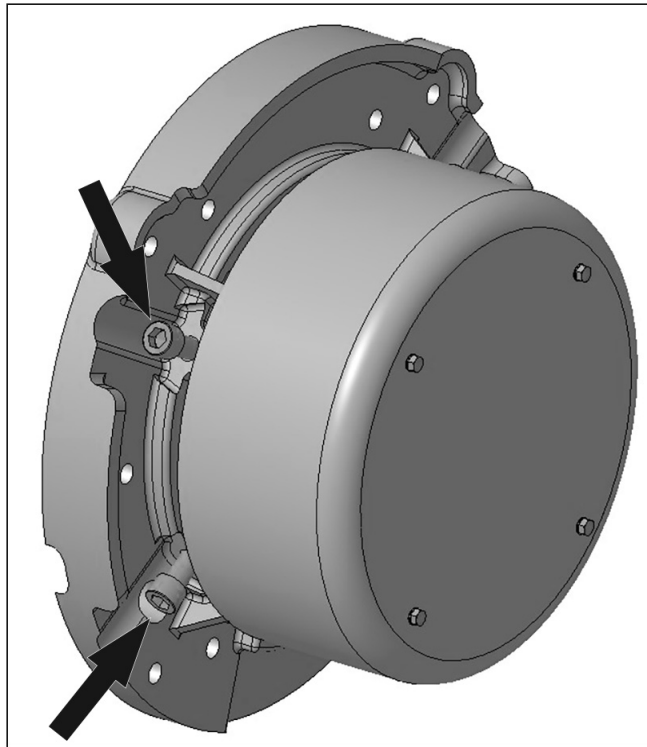

FIGURE 15. ROTOR TRANSIT SUPPORT SCREWS REMOVAL AND FITTING INSTRUCTIONS
4. Replace the transit support screws with the 4 accompanied blanking screws and tighten to 50 Nm. Refer to: Figure 15 on page 25.
2. Locate and remove the 4 blanking screws on the non-drive end bearing cap. Refer to: Figure 15 on page 25.